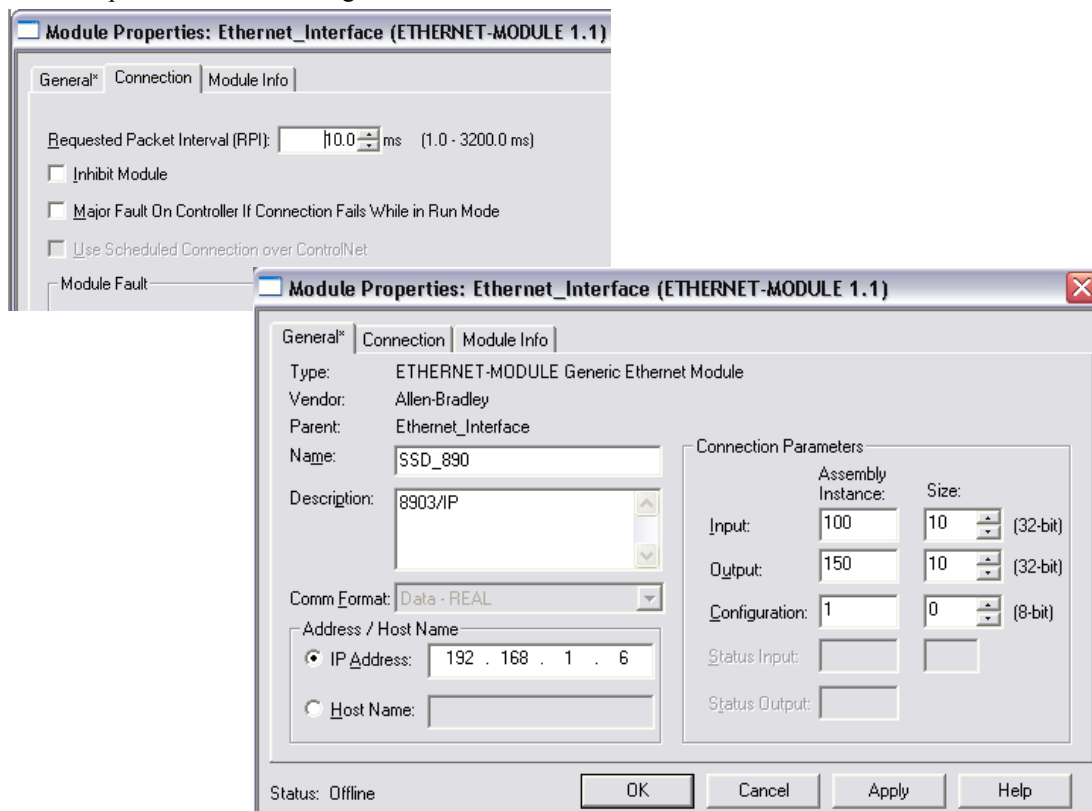

Figure 22 Generic Ethernet Module Setup
4. Input the desired module name and IP address. The Comms format will be DATA Int if 16-bit signed integer, or Data-REAL if 32-bit floating point. The Input Assembly Instance is 100 and the Output Assembly Instance is 150. Refer to Figure 22.
5. Click on Next to change the Requested Packet Interval (RPI). The default value of 10ms should be sufficient. If the RPI is set below 5ms unreliable communications may be experienced. Refer to Figure 22.